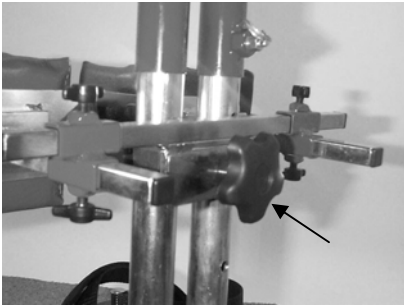
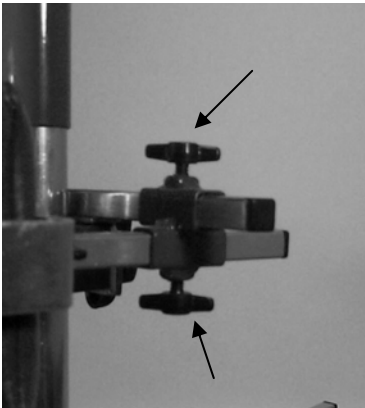

Figure 9
Figure 10
***Knee Support Pads:*** Adjust the Knee Support Pads by loosening the large black adjustment knob on the back of the Knee Support Assembly and sliding the assembly up or down on the center mast (*Figure 9*). Individually adjust for each kneepad width or depth by loosening the T-knob on the side you wish to adjust (*Figure 10*). Position the pad front-to-back or side-to-side to accomplish proper (straight) alignment of the lower extremities.